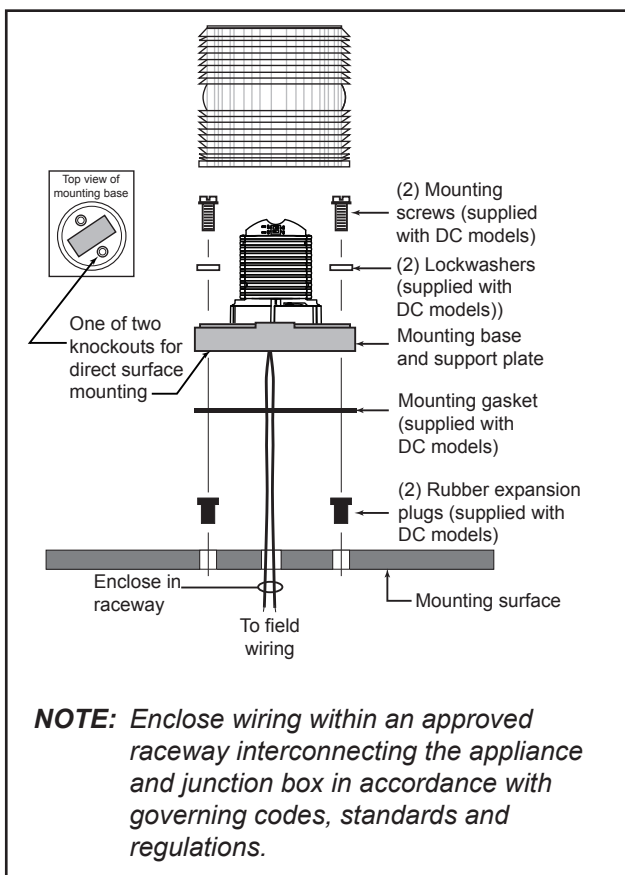

Figure 2. Direct Surface Mounting of the 48XBRM Series Signals
Direct Surface Mounting (Indoor Only) - Figure 2
6. Align the outer holes in the mounting gasket with the holes in the surface. Insert two screws with lockwashers through the two outer holes in the signal base and align the screws with the rubber expansion plugs as shown in Figure 2. Press the signal base firmly against the mounting surface and tighten the screws.